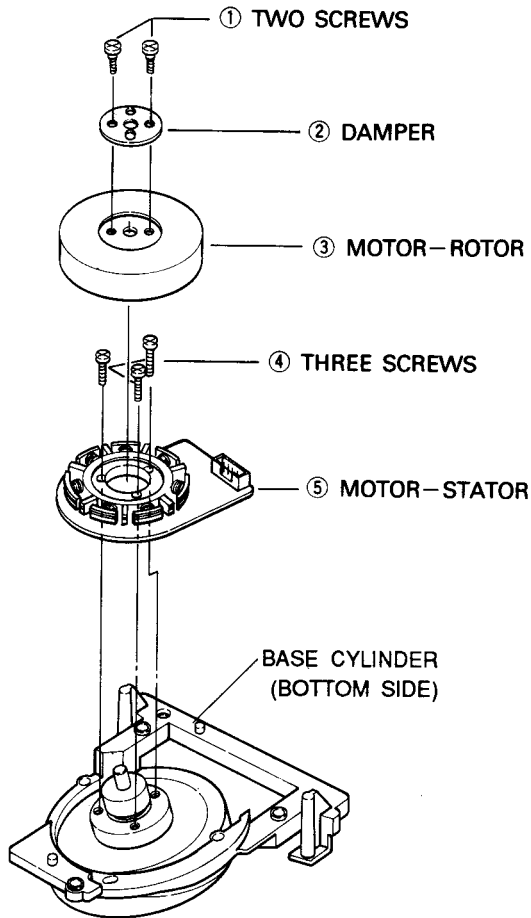

Fig. 19 Cylinder Motor Removal
1. Secure with three (3) screws to the motor-stator. (Refer to Fig. 19)
2. Reinstall the motor-rotor, damper and secure with two (2) screws. (Refer to Fig. 19)